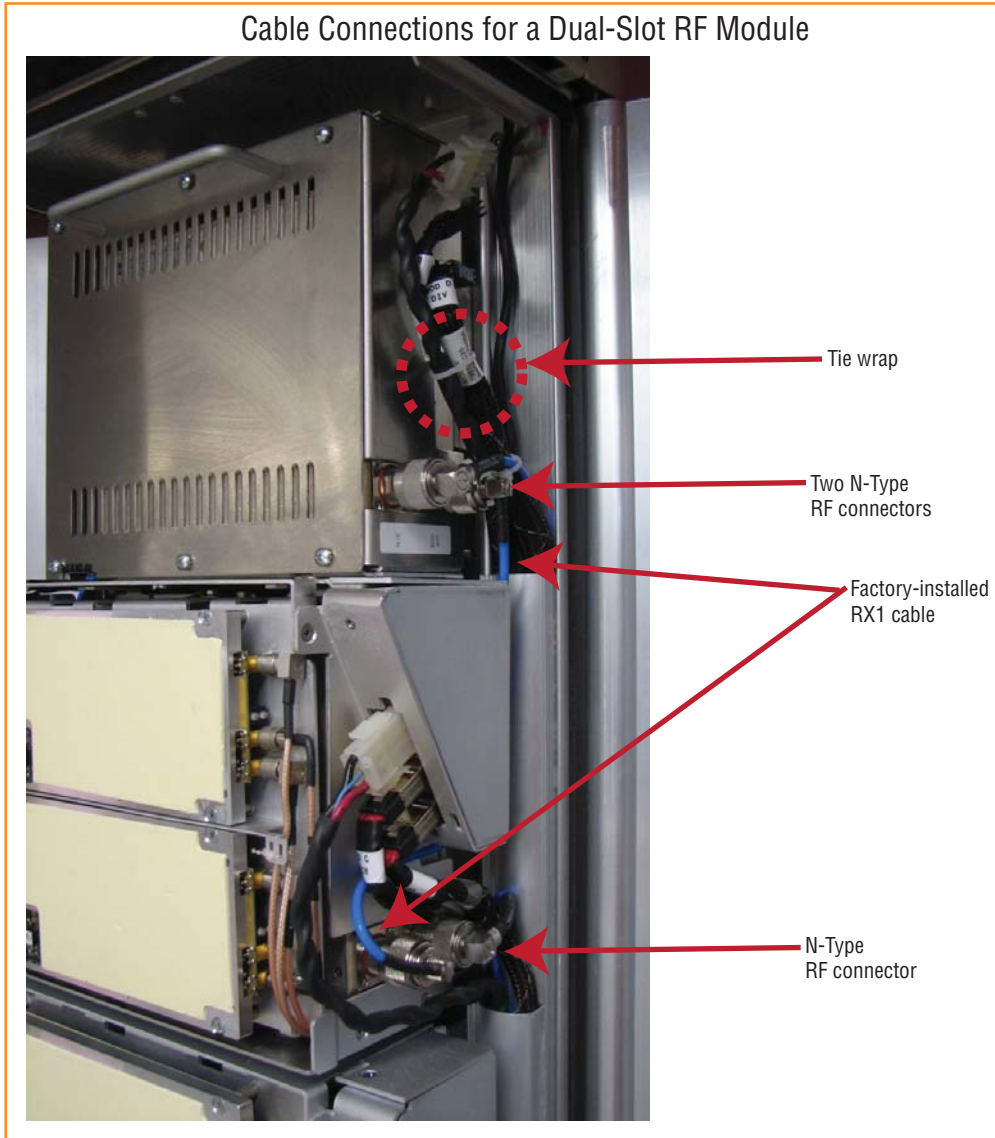

Figure 23. Cable Connections for Dual-Band Dual-Bay RF Modules
- Dual-Bay RF Module: Figure 23 on Page 41